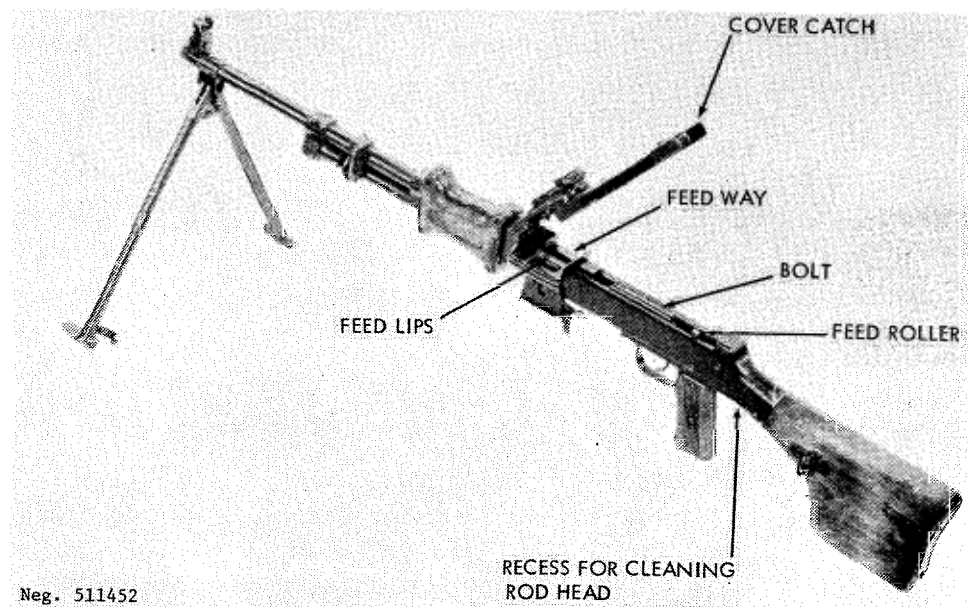

Figure 153. RPD ready for loading.
necessary, open the dust covers by opening and closing the feed cover. Then insert the lead tab of the belt into the feedway from left to right, and give it a vigorous pull to the right to seat the first cartridge in the holding pawl. Pull the operating handle to the rear (unfolding it first, and returning it forward if a modified early or third or later version RPD) until the slide is caught by the sear. An alternative method of loading is to press the cover catch forward and open the cover (fig 153). Pull the operating handle rearward and lay a belt in the feedway with a cartridge in the feed lips. Close the cover. Close the cover.
(1) Clear the gun (para 181f), but do not close the covers. Remove the cleaning rod by prying its head out of its recess (fig 153) and withdrawing it to the rear.